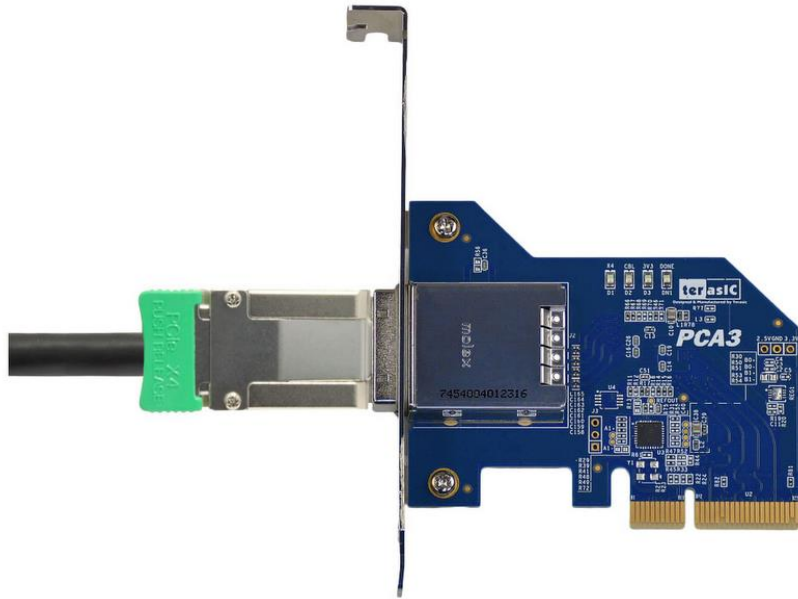

Figure 3-4 PCIe Cable and PCA3 connector Connected
**Figure 3-4** shows the PCIe Cable connects PCA3 connector